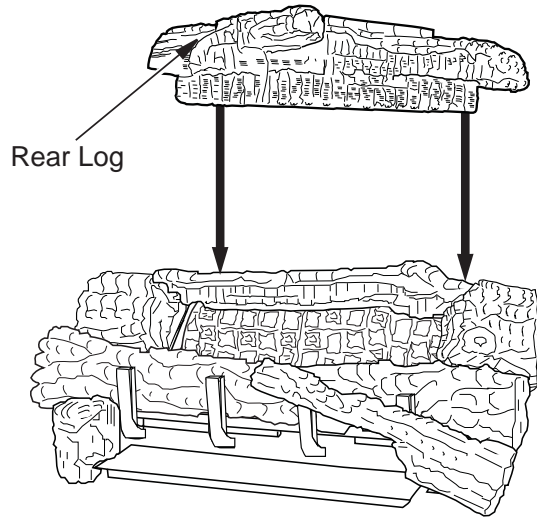

Figure 35 - Installing Rear Log
9. Rest the rear log (18" D-069, 24" & 30" D-043) on the chassis behind the rear burner as shown in **Figure 35**. The bottom of the rear log will sit into the rear log supports.